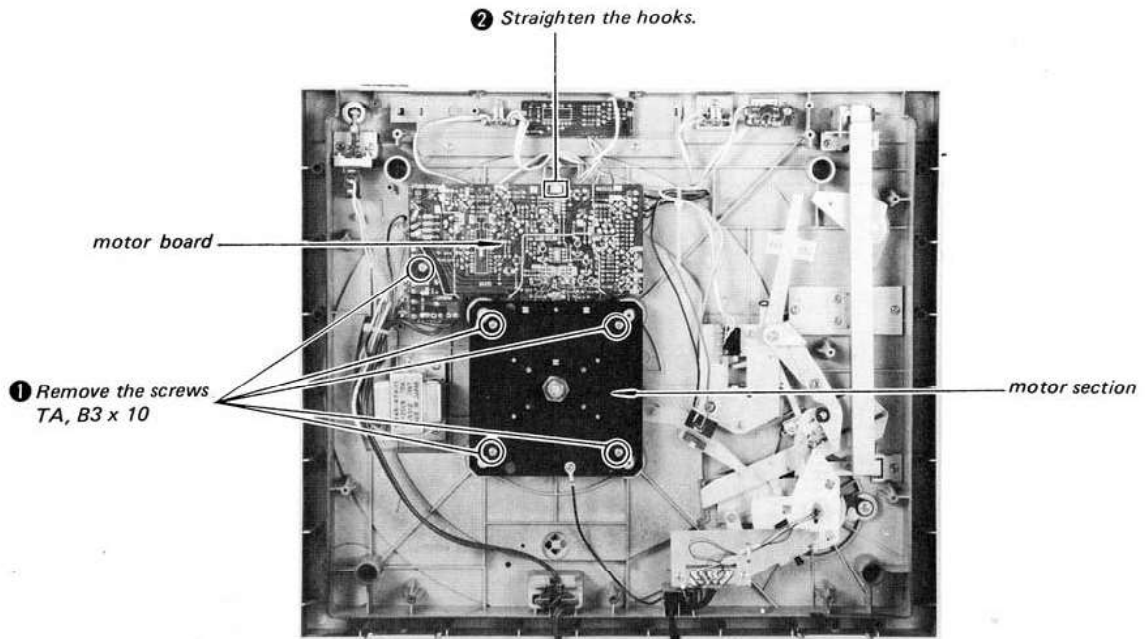

Fig. 2-4
1. Remove the screws marked ❶ in Fig. 2-4 and then perform ❷.